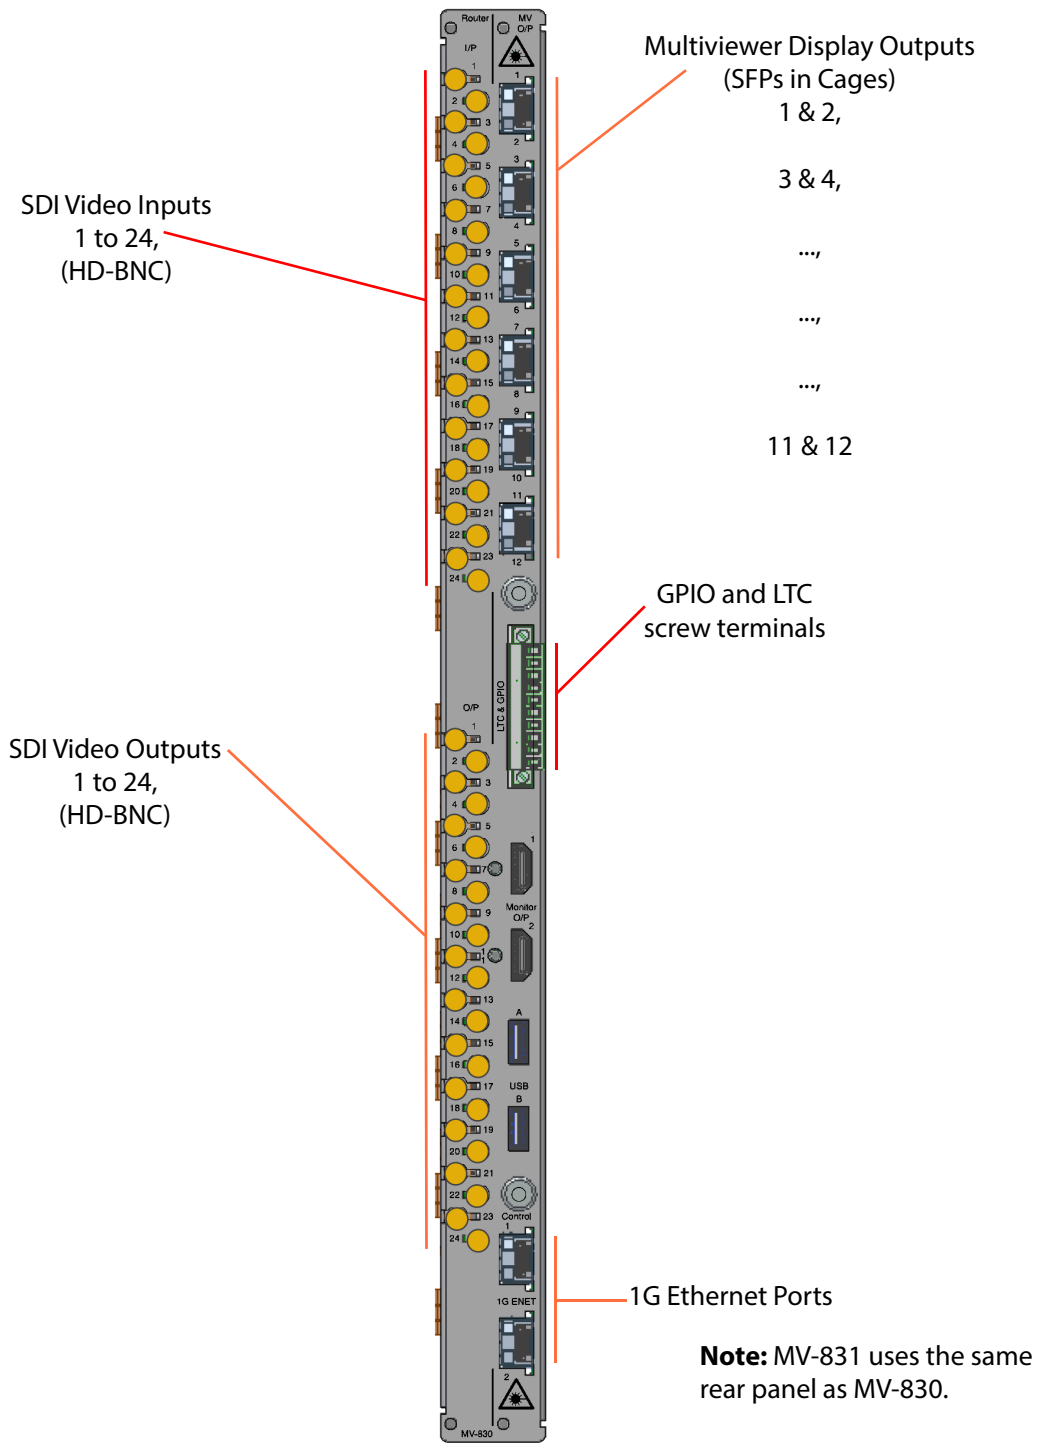

Fig. 3-11: MV-831 Multiviewer Rear Panel Connections (MV-830-RP)
Now that the MV-831 Multiviewer hardware is fitted into the router, some cable connections need to be made. Figure 3-11 shows the connections that need to be made.
- 1 Connect the MV-831 directly to a computer network port via 1G Ethernet port 1 (see Figure 3-11) using a standard CAT 5e Ethernet cable.